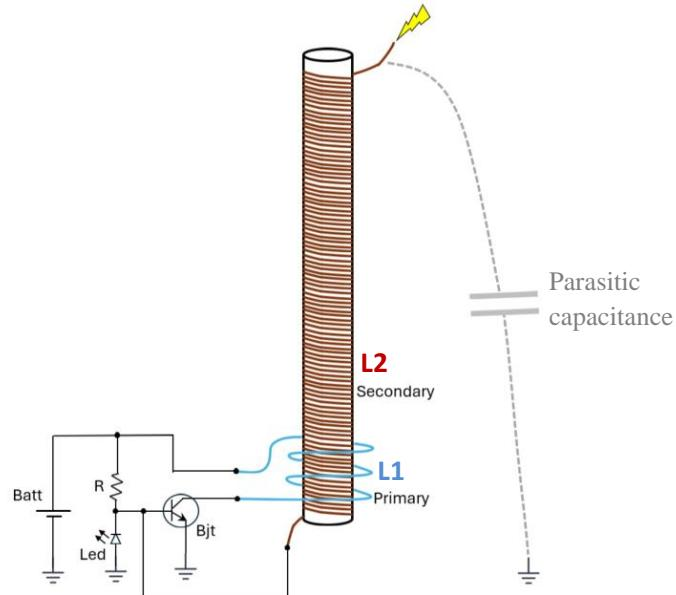

Figure 1: SSTC with Slyer oscillator driver
- Primary Coil (L1): A few turns of thick wire, typically air-cored, located at the base of the secondary and connected in series with the collector (or drain) of the transistor. (blue coil in Figure 1)
- Secondary Coil (L2): A high number of turns of thin enameled wire, wound on a non-conductive tube. It resonates with its parasitic capacitance to form an LC circuit. (red coil in Figure 1)